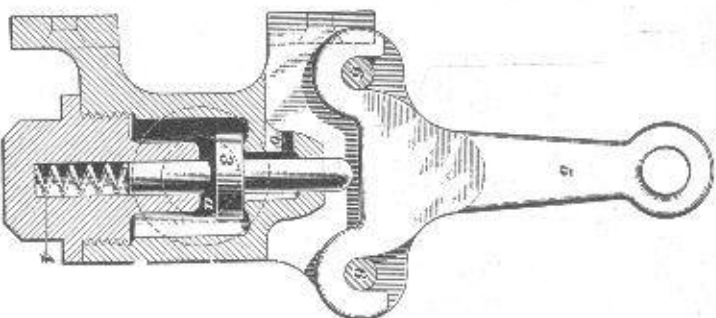

FIG. 6
6. A sectional view of the car discharge valve is shown in Fig. 6, in which 3 is the discharge valve and 4 the discharge-valve spring that holds this valve up against its seat. 5 is the lever, or handle, to which the signal cord is attached, while 6, 6 are stop-pins. There is a union connection at *a* to which the branch pipe from the signal pipe is connected, while the exhaust port *b* leads to the atmosphere.